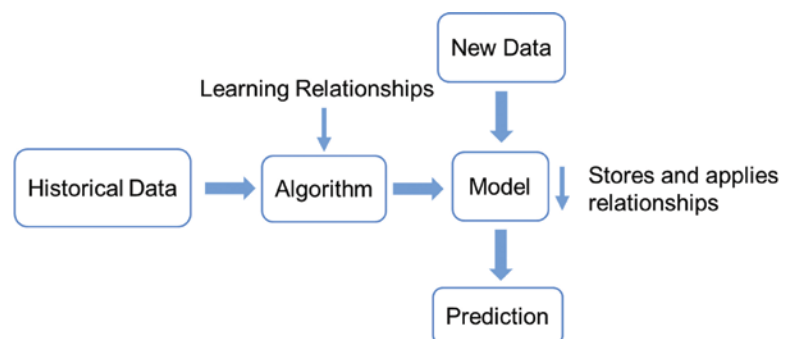

Figure 1: Flow chart of generic machine learning concept.
Machine learning is a subfield of artificial intelligence (AI) that uses algorithm models to recognize the patterns in each dataset as well as learn and predict based on the supplied training dataset. It consists of a few steps, including data collection, data preparation, training, evaluation, and model tuning. Figure 1 shows the working flow of the generic machine learning concepts. Utilizing machine learning techniques will promote business success by improving time efficiency and design/prediction accuracy. In the semiconductor industry, for example, foundries are trying to apply machine learning techniques to areas like automatic defect classification, electrical tests, acoustic anomaly detection, and predictive equipment maintenance. It can also be used in EDA development, such as simulation models.